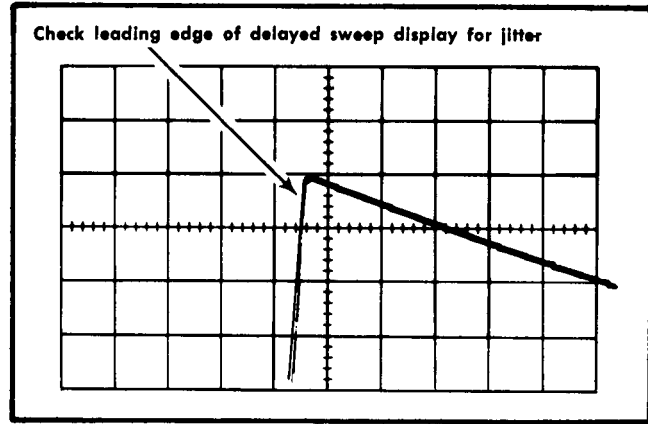

Fig. 5-20. Typical CRT display when checking delay-time jitter.
c. CHECK-Jitter on the leading edge of the pulse should not exceed 0.5 division [1 part in 20,000; see Fig. 5-20). Disregard slow drift.
e. CHECK-Jitter on leading edge of the pulse should not exceed 0.5 division; see Fig. 5-20. Disregard slow drift.